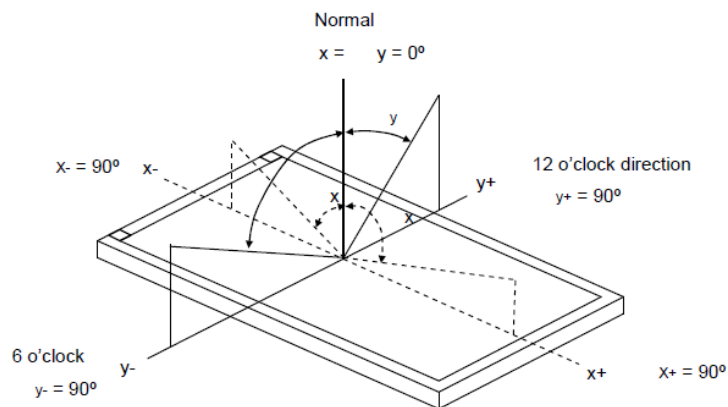

Figure 10. Definition of Viewing angle
(6) Definition of Viewing angle:
As Note (4) the static contrast ratio definition, the viewing angles are defined at the angle that the contrast ratio is larger than 10 at four directions relative to the perpendicular direction of the HG module (two vertical angles: up θ_{y+} and down θ_{y-} ; and two horizontal angles: right θ_{x+} and left θ_{x-}). The standard setup of measurement is shown in Figure 10&11.